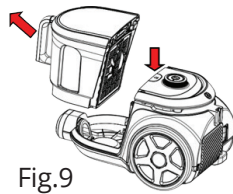

Fig.9
2. As seen in Fig.9, remove the dust collector apart from the unit.